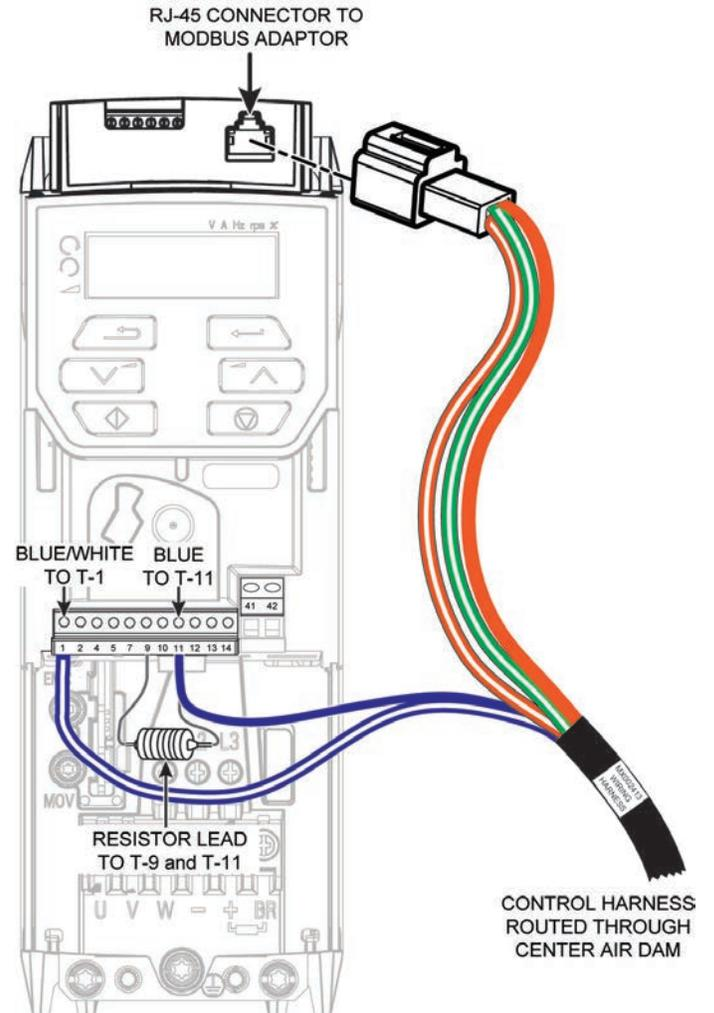

Figure 7. Connect Control Harness Wires to VFD
1. Plug RJ-45 connector from control wiring harness (MX002413) into AI-485 Modbus Adaptor. See Figure 7.
2. Connect remaining control harness wires to the terminal strip below the VFD control panel. See Figure 7.